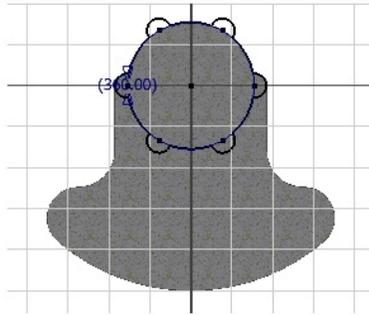

Figure 6-134 Sketch of the join feature
- b. Create the second feature on the YZ plane and extrude it using the **Symmetric** option, refer to Figures 6-134 and 6-135.
4. Draw the sketch of the join feature, as shown in Figure 6-134. For dimensions, refer to Figure 6-131.
It is recommended that you create a big circle and a small circle on the periphery of the base feature. Trim the unwanted portion of the small circle and then pattern the small circle, refer to Figure 6-134.